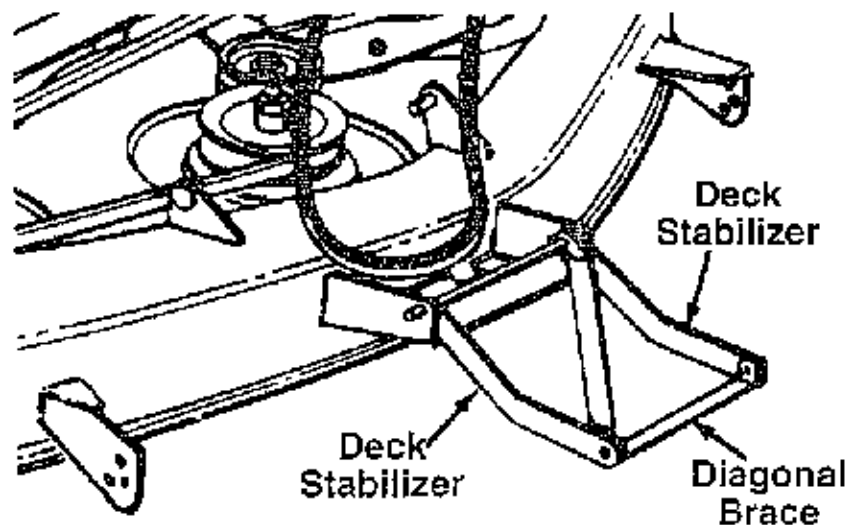

FIGURE 5.
3. The two deck stabilizers and the diagonal brace which are attached to the front of the deck are folded back over the deck for shipping purposes. Unfold them at this time. See figure 5.